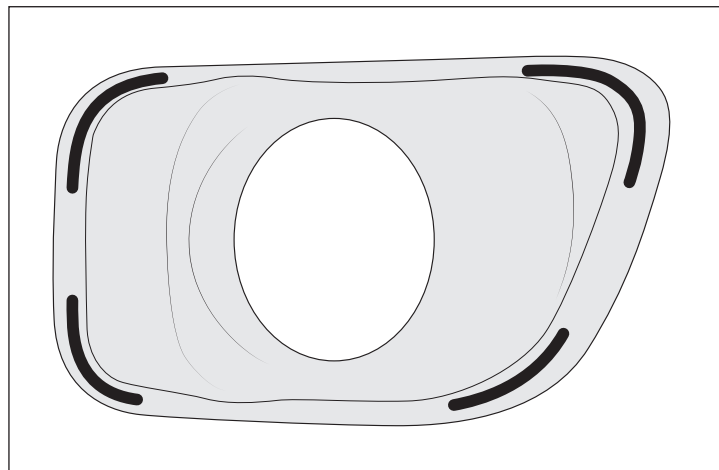

Figure 24
1. Clean the backside of the Lamp Bezels with alcohol. Apply approximately 3" long beads of black RTV at all four corners of the bezels (fig. 24).